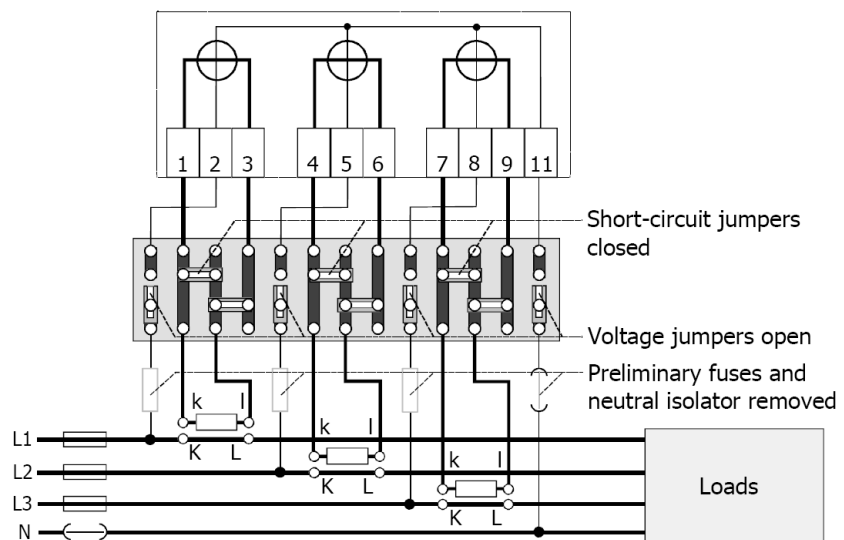

Fig. 4.18 Condition of test terminal block before removing meter (terminal layout according to DIN)
4. Check that the connecting wires are not live using a phase tester or universal measuring instrument. If not, check the condition of the test terminals again according to Fig. 4.18. Remove the relevant supply fuses if necessary and ensure that they cannot be re-inserted by anyone unnoticed before completing the installation.